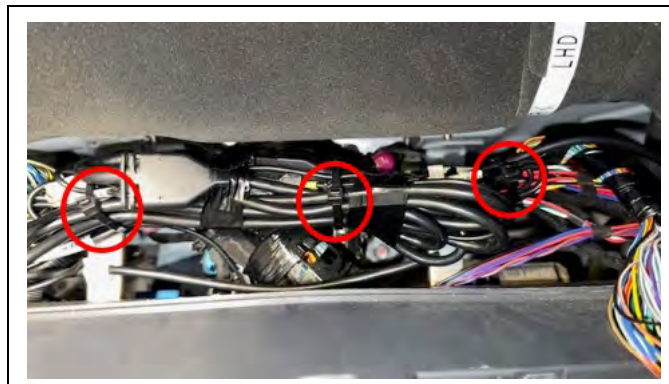

Figure 31
30. Secure the bundled Mobileye harnesses to the IP harness using three (3) zip ties. (See Figure 31.)